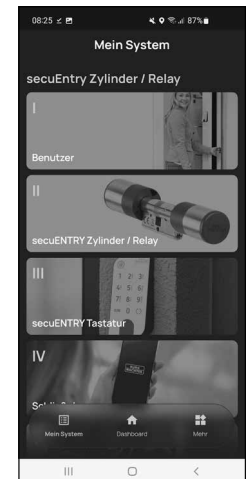

Fig. 7
- 9 Return to the "My System" menu (Fig. 7).